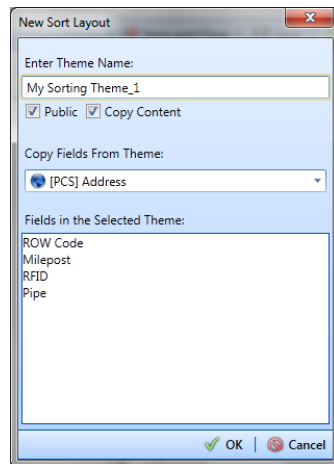

Figure 7-47. New Sort Layout
- 4 Click  **Add** to open the *New Sort Layout* dialog box (Figure 7-47, page 335).